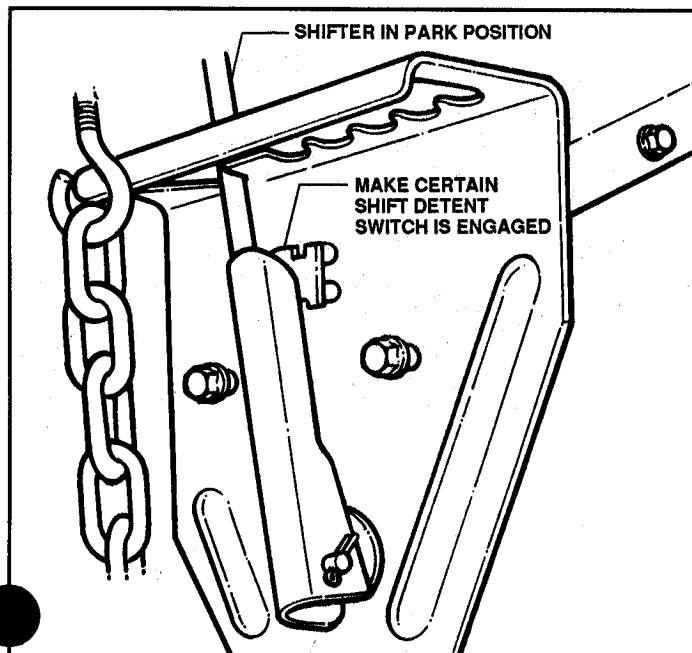

FIGURE 6.3
- C. Make certain the Shifter is in the PARK position and the shift detent switch engaged. See Figure 6.3.